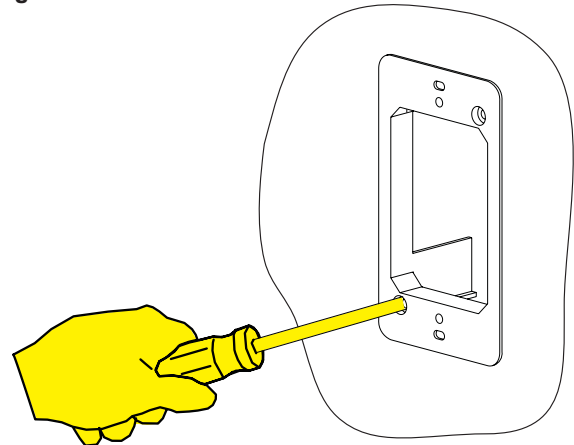

Figure 2
3. Insert wall box into opening, use a Phillips screwdriver to tighten holding tabs and secure the box into the wall. **See Figure 2.**